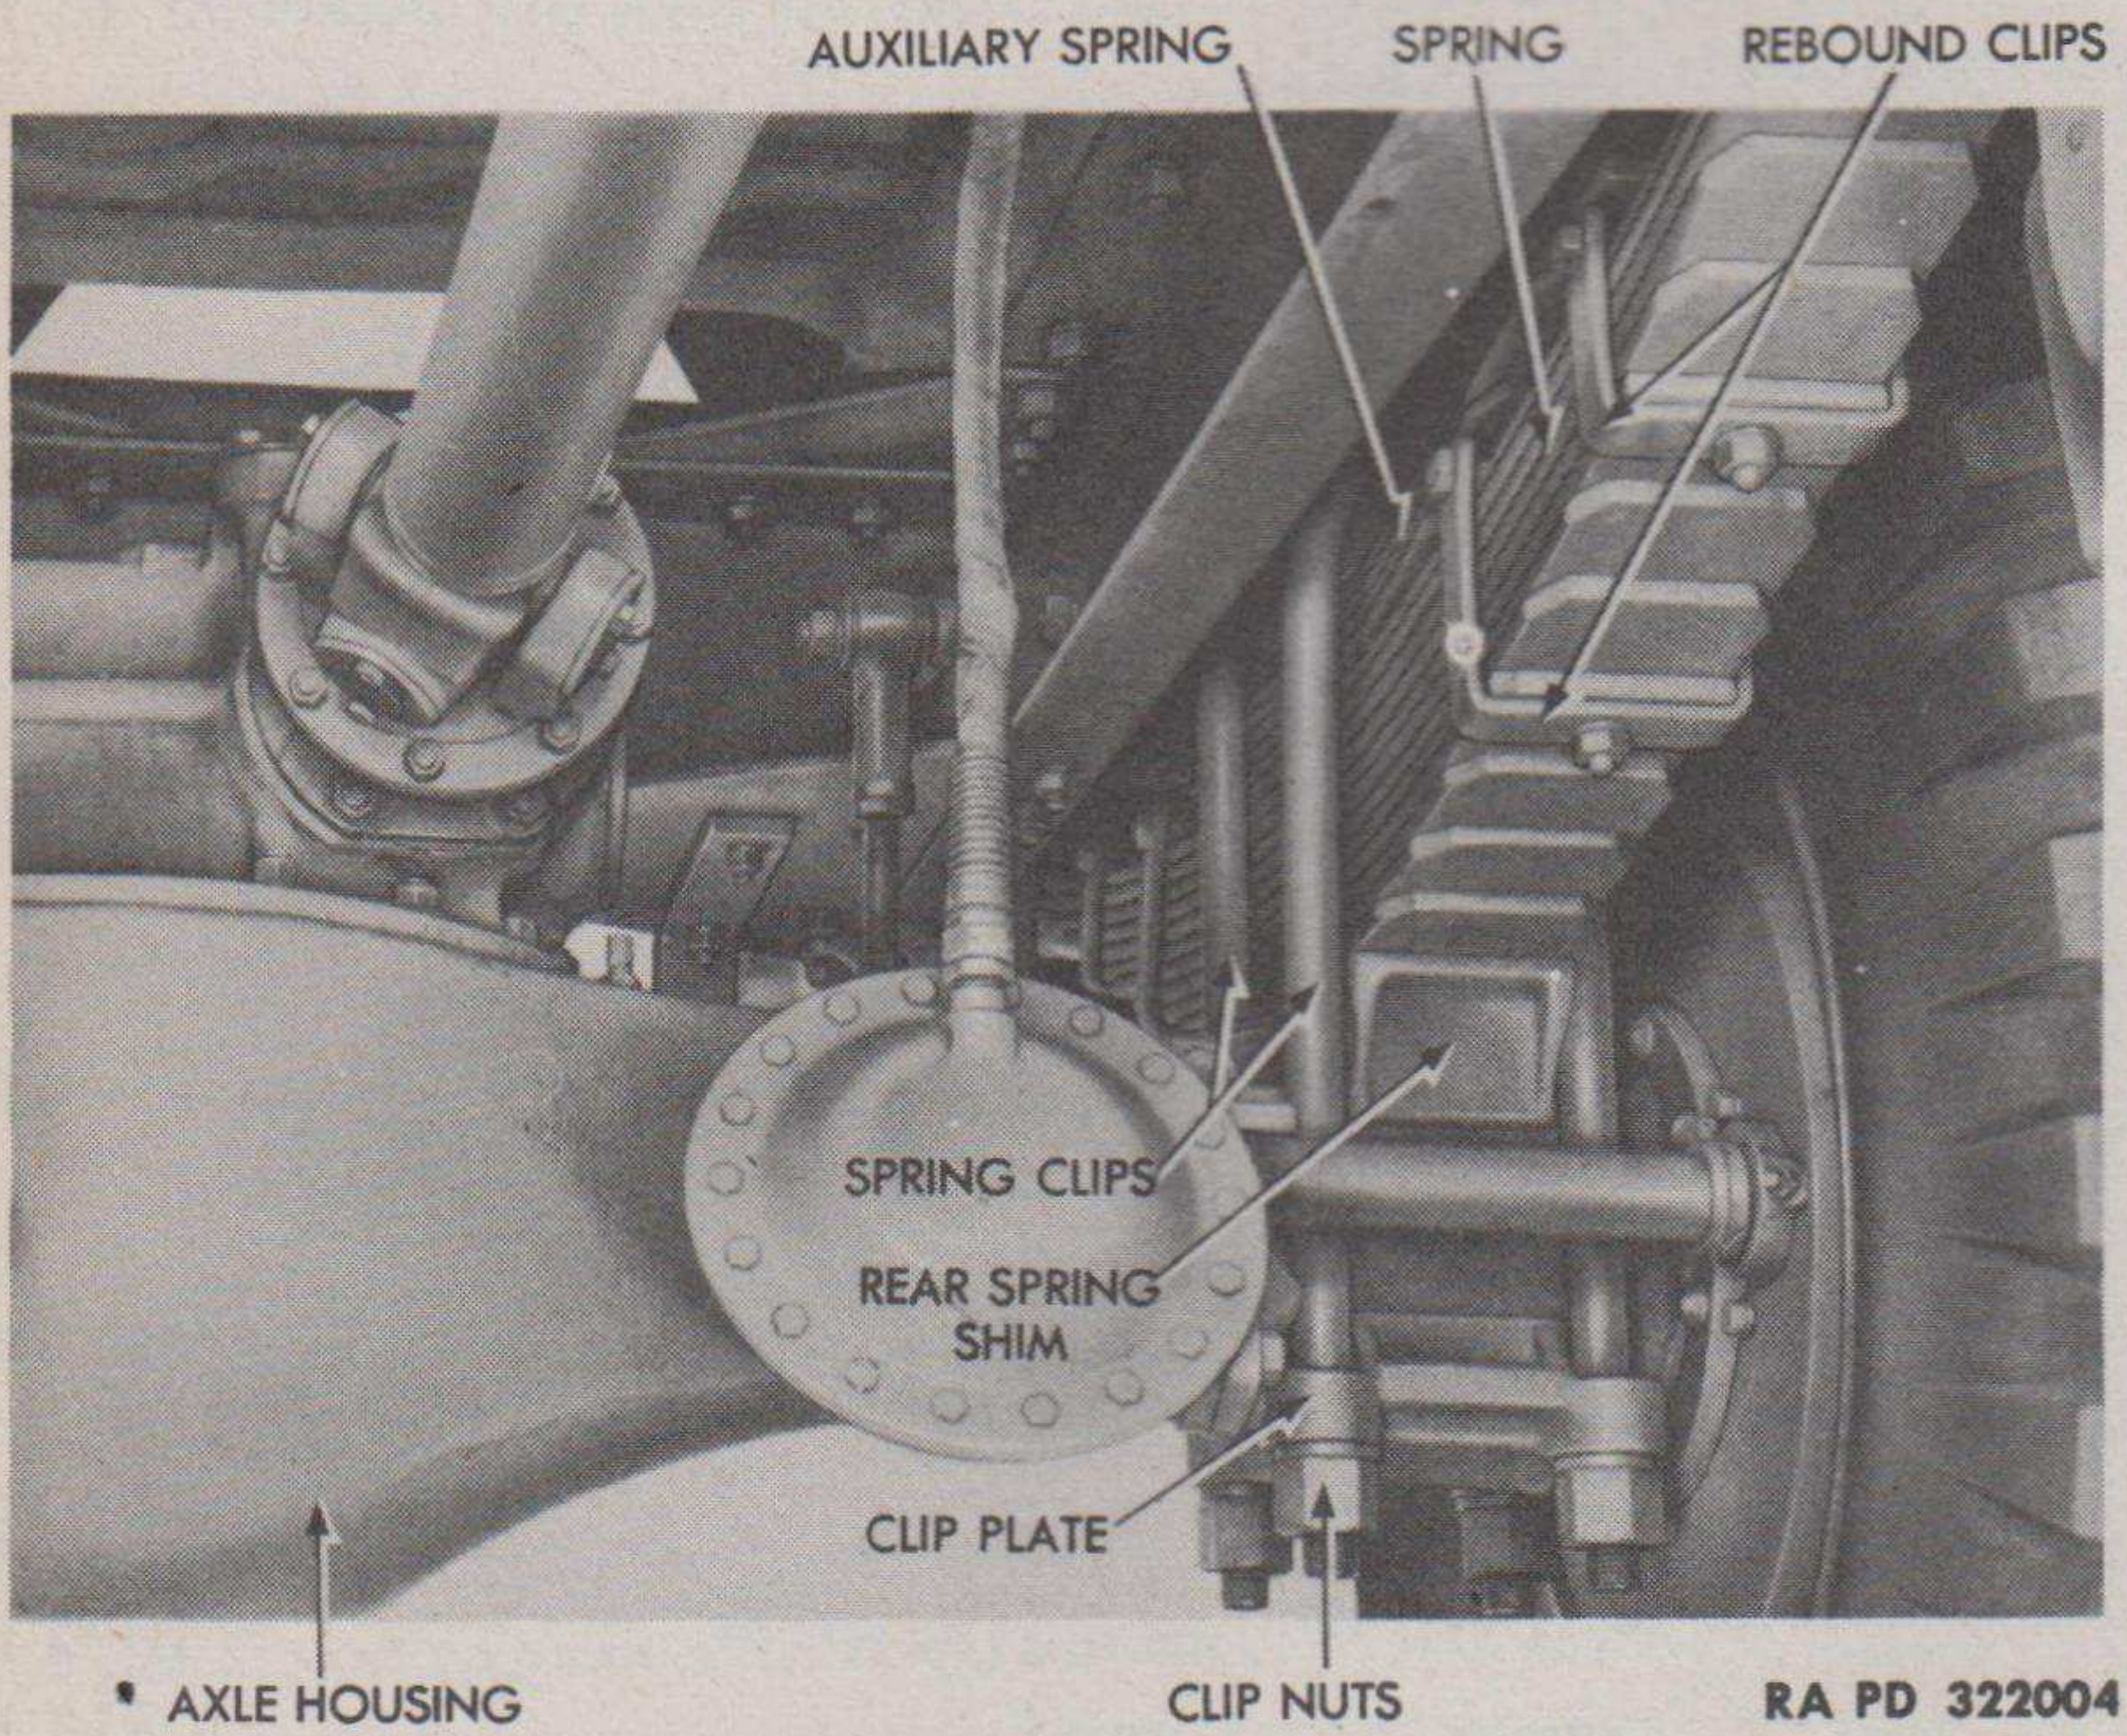

Figure 67 — Rear Spring Installed
b. **Disassemble Rear Spring** (fig. 67). Press spring bushings from spring. Remove center bolt nut and drive center bolt from spring. Lift auxiliary spring from main spring. Remove spring rebound clip bolt nut from rebound clip bolt on each of the four rebound clips. Pull bolts from rebound clips. Separate spring leaves. Remove nut, lock washer, and plow bolt which attach each rebound clip to spring leaf.
b. **Assemble Rear Spring** (fig. 67). Coat leaves of main spring and auxiliary spring with graphite lubricant. Attach each of four rebound clips to spring leaf with plow bolt, lock washer, and nut. Assemble leaves, and install rebound clip bolts and nuts. Position auxiliary spring on main spring, and tap center bolt into position from under side of main spring. Install center bolt nut. Press spring bushings into spring.